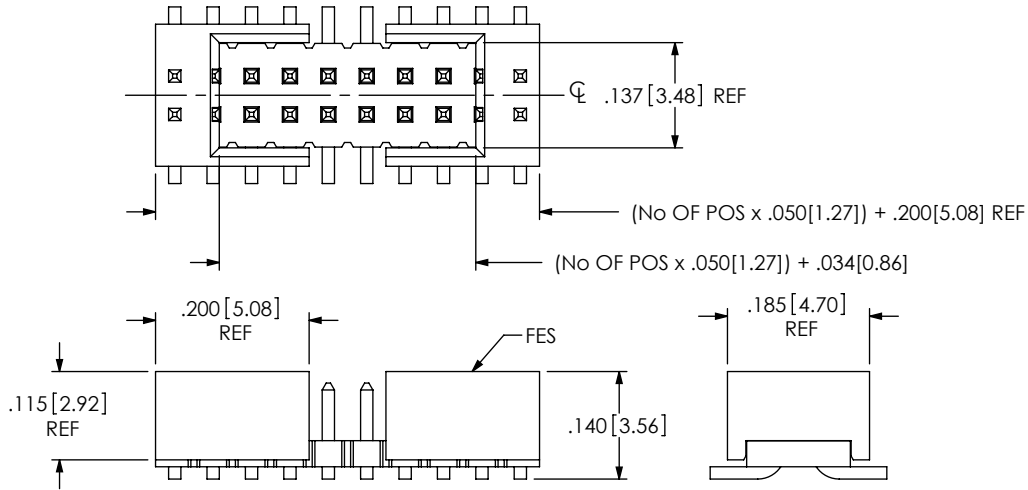
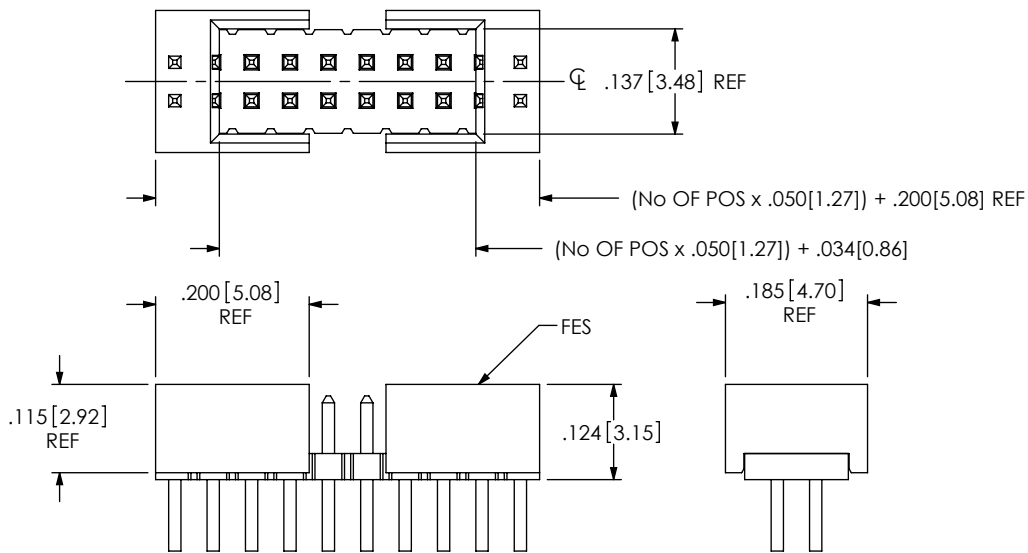

FIG 3
FIG 6
- S: END SHROUDS (SEE FIG 3, SHT 2 & FIG 6 SHT 3) (LEAD STYLE -02 & -03 ONLY) (05 POS MINIMUM, 46 POS MAXIMUM) (NOT AVAILABLE WITH -A OPTION; ORDER -SA FOR ALIGNMENT PIN WITH SHROUD) (SEE NOTES 6 & 7)